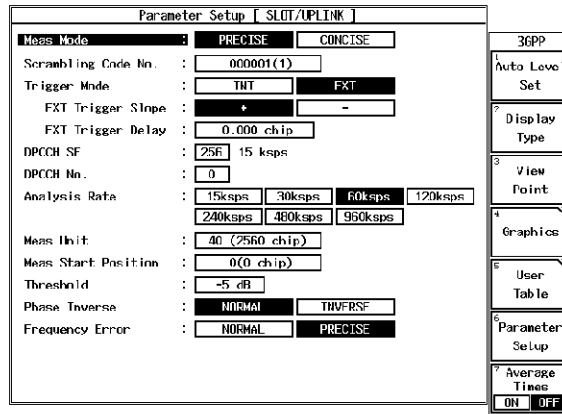

Figure 6-5 Setting of Measurement Parameters for Up Link (RF Input)
- On the R3267 Series, set the measurement parameters as shown in Figure 6-5.